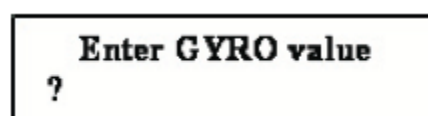

Figure 7 – Course data input
- b) press button “1” on the Product casing; the command to enter course data will appear on the display, see Figure 7;